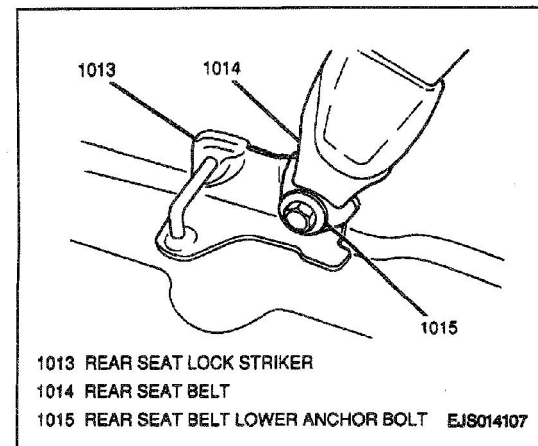

Figure 4—Rear Seat Belt Lower Anchor Bolt—Typical
Figures 4 through 7
1. Rear seat belt lower anchor bolt (Figure 4).
- 4. Rear seat belt lower anchor bolt (Figure 4).